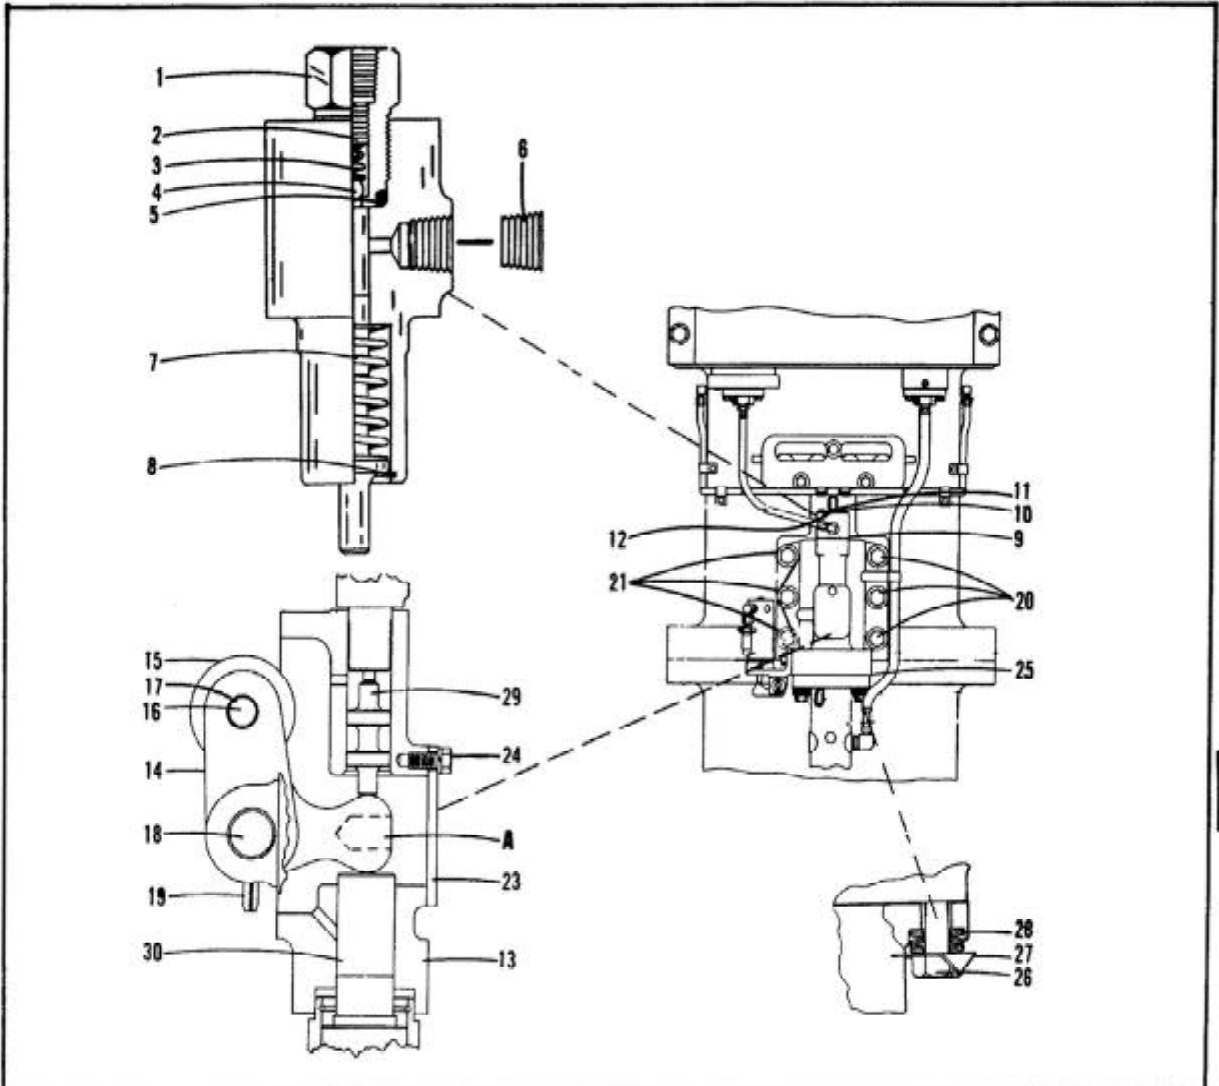
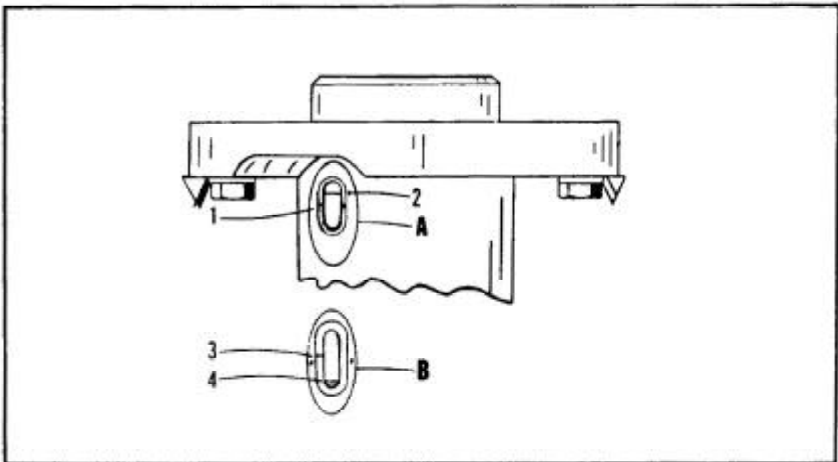

Fig. 8-1
Fig. 8-3
The fuel injection pump Fig. 8-1, is supplied with fuel, gravity fed through a hose from the fuel tank to the entrance located on the side of the pump.
- (c) Next remove cover plate between lube pumps. See Fig. 8-1.
- (h) Insert small diameter end of priming lever in bell crank at point (A) Fig. 8-1.
- (a) Lift entire Hammer clear of piling, anvil and ram in down position, and tip the Hammer forward slightly, toward the fuel pump. This assures that the weight of the ram is against the cam roller (15) Fig. 8-1, forcing the tappet to the lowest position it goes during operation.
- (b) The relative position of the timing marks should appear respectively as pictured in Detail (B) of Fig. 8-3. Timing marks should be at least $1/32$ " above the bottom of the window to prevent possible bottoming of the internal parts of the pump.
The Timing Mark, Fig. 8-3, Should Never Be Allowed To Leave The Window Either During Hammer Operation Or While Checking Timing Or Pump May Be Severely Damaged Or Completely Ruined.
When installing a new pump, leave capscrews (18) Fig. 8-1, loose so that the timing mark never leaves the window;
- (c) Set Hammer on a piling, or driving head, latch in and raise the ram about 17". At this time the timing marks will appear as in Detail (A), Fig. 8-3. Timing mark (2) should be a minimum of $3/32$ " above index mark (1). Loosen capscrews, (18) Fig. 8-1, and
determine number of shims needed to obtain this dimension and in no case should timing mark (2), Fig. 8-3, be less than $3/32$ " above index mark (1).
Satisfactory operation of the fuel pump depends upon proper care and maintenance of its precision parts. Above all, the working parts of the pump must be kept dirt free. Weekly inspect the control rack Fig. 8-1, for possible dirt accumulation and clean with a clean, soft bristle brush and fuel oil to prevent excessive wear of rack and mating gears.